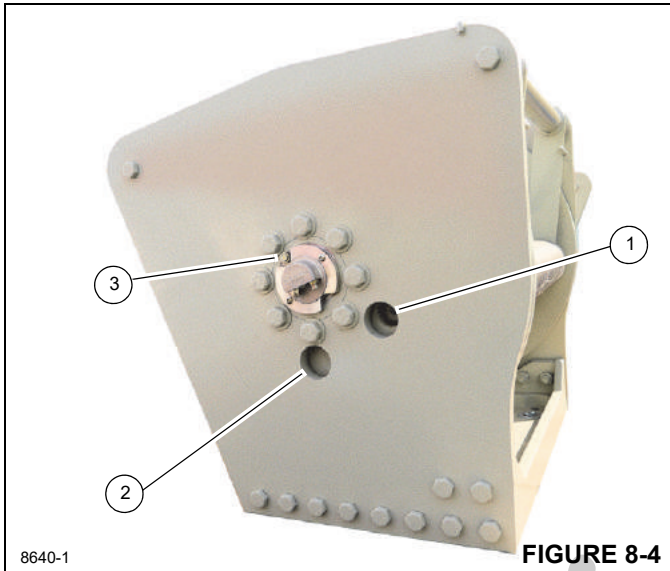

FIGURE 8-4
1. Rotate the drum until the oil fill/level plug (1, Figure 8-4) is visible in the inspection hole.
1. To fill with oil, rotate the drum so the gearbox fill/level plug (1, Figure 8-4) is visible through the upper hole.
2. Remove the fill/level plug (1) with a hex socket.
3. Install a 1 in pipe with elbow into the fill hole (1) to assist with adding oil.
4. Remove the vent plug (3) to assist with adding the oil.
5. Fill the gear box with 3.3 L (3.50 qt) of oil or until the oil is at the bottom level of the inspection hole with gear lube oil. (See Figure 8-4.)
1. To drain and add new oil, remove the vent plug (3, Figure 8-4) to assist with draining the oil.
3. Remove the drain plug (2) with a hex head socket.
7. Install the oil drain plug (2).
8. Install a 1 in pipe with elbow into the fill hole (1) to assist with adding oil.
9. Fill the gear box with 3.3 L (3.50 qt) of oil or until oil is at the bottom level of the inspection hole with gear lube oil. (See Figure 8-4).
11. Install the fill/level plug (1).
12. Install the vent plug (3).